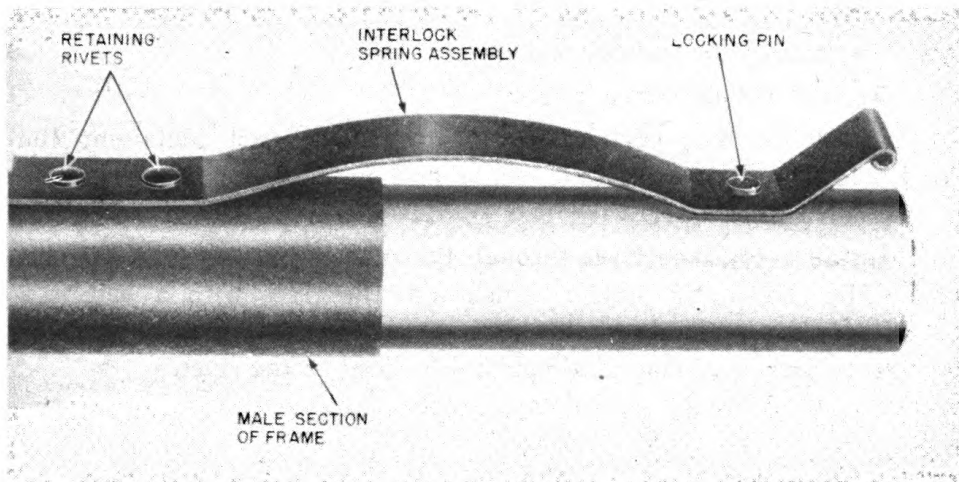

Figure 12. Detailed view of interlock spring assembly.
*a.* REPLACING INTERLOCK SPRING ASSEMBLY (fig. 12). The interlock spring assemblies are riveted to the female sections of the tubular frame and are designed to hold two sections together. The spring assembly is replaced as follows:
(1) Cut off, or punch out the two spring retaining rivets and remove the defective spring.
(2) Place the new spring assembly on the frame so that the two holes in the spring line up with the holes in the frame.
(3) Insert a 3/16-inch rivet through the wall of the frame and through the spring by working through the two large holes in the frame which are directly opposite the rivet holes. The head of the rivet will be inside the tube.
(4) Insert a bucking bar through the large hole in the frame and position the bar firmly against the head of the rivet. Flare the tubular end of the rivet over the spring on the outside of the frame with a flaring tool or a ball-peen hammer.
(5) Proceed to install the second rivet as described above.